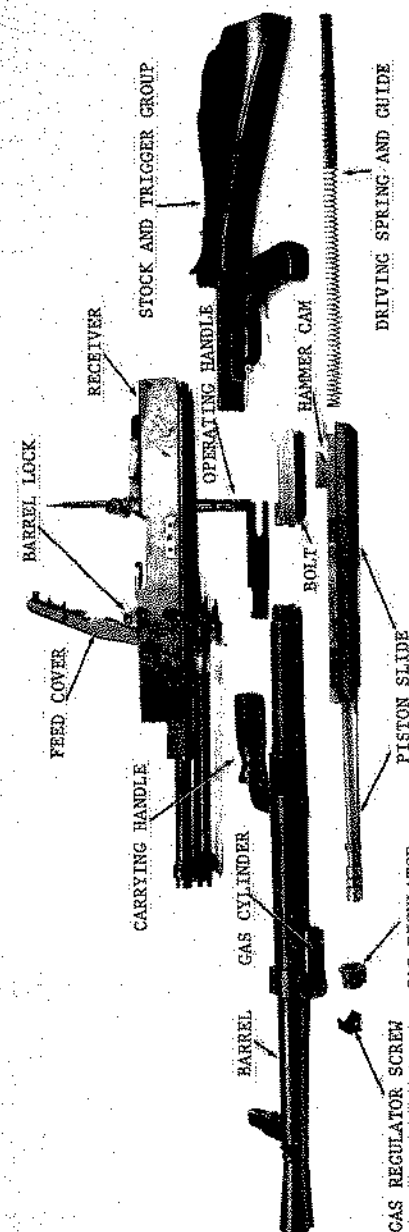

Figure 160. Type 67 field stripped.
g. The barrel may become overheated during firing. To change barrels, press the cover catch and open the feed cover (fig 157). Press the barrel lock (fig 160) to the left as far as possible. Use the carrying handle and pull the barrel forward, out of the gun. Insert the spare barrel into the receiver, insuring that the gas cylinder enters the gas cylinder tube (fig 157). Press the barrel lock in, fully to the right. (Note: There is a screw adjustment on the barrel lock to compensate for wear. This screw is adjusted only by an armorer.) Close the cover.
b. Press the takedown pin (fig 157) out to the right as far as possible, then pull the stock and trigger group straight to the rear until it comes free. Remove the driving spring and guide. Pull the operating handle rearward; this will move the gas piston, slide and bolt to the rear where they can be removed. Lift the bolt off the slide (fig 160). Pull the operating handle rearward until it comes clear of the receiver.